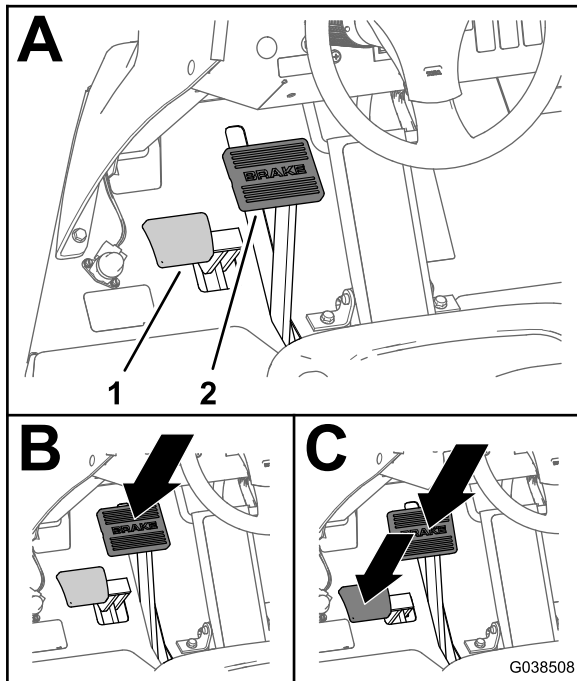

Figure 19
1. Press down the service brake pedal (Figure 19).
2. While pressing down the service-brake pedal, press down the parking-brake pedal (Figure 19).